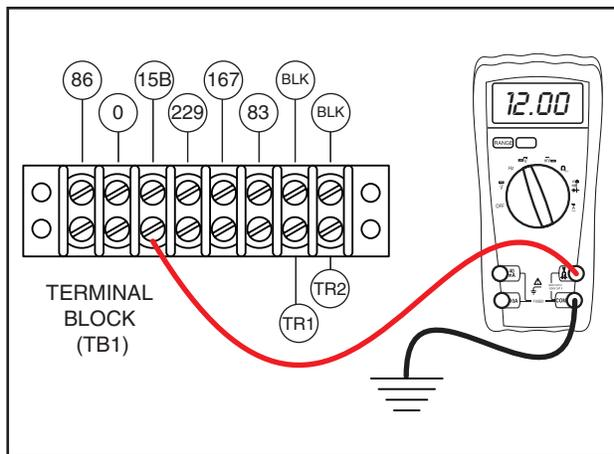

Figure 6-5. – Testing Wire 15B
7. Connect the positive meter test lead to Wire 15B at Terminal Block 1 (TB1). Connect the negative meter test lead to ground. See Figure 6-5. Place the Start-Run-Stop Switch (SW1) to START. 12 VDC should be measured. If voltage was measured proceed to Step 8. If voltage was not measured, proceed to "RESULTS".